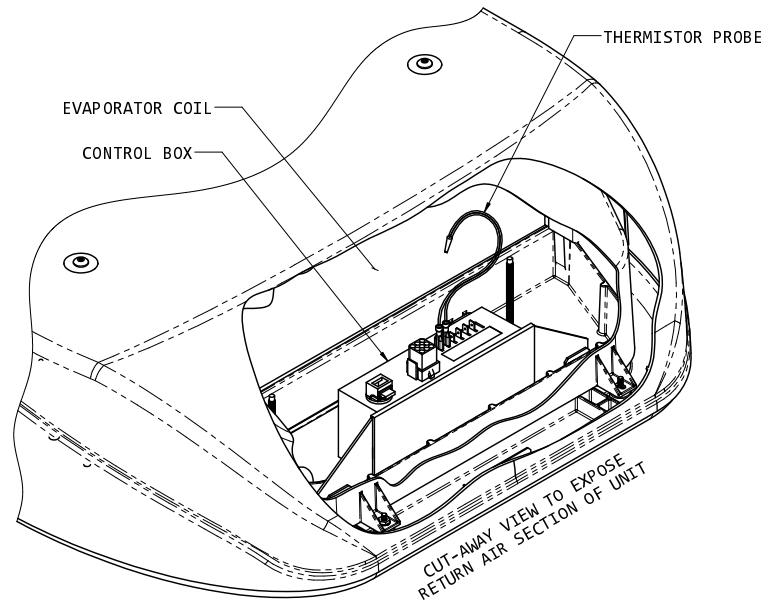

FIGURE 8
9. Mount control box in upper unit return air compartment. For installation in 47000 series units, see Figure 8. Note that the control box installs with the wires exiting upwards.
For installation in the 47000 series, install control box and heater per Figures 8 and 9.